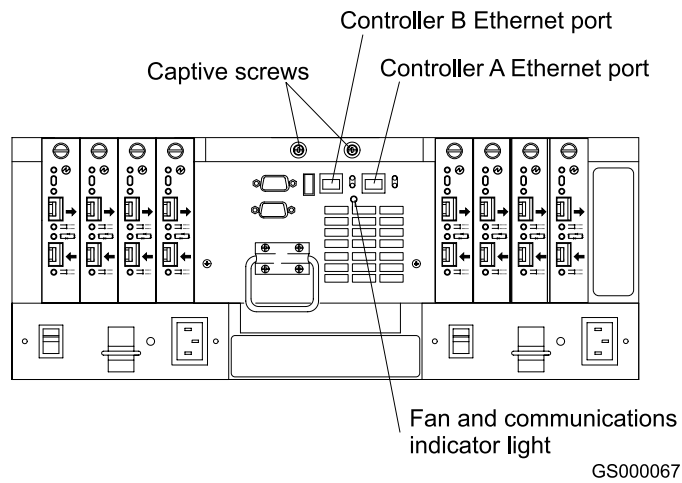

Figure 42. Fan and communications module ports and indicator light
5. Check the fan and communications indicator light. See Figure 42 on page 49 for the location of the fan and communications indicator light.